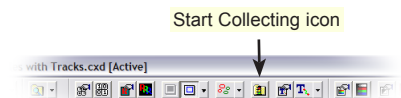

fig.7
3. Click the **Start Collecting** icon (fig.7) in the **Data Document** toolbar > assign a file name > **Save** > Check all the data components (fig.8) to be included in the measurements > **OK** > Click **Start** in the **Task** toolbar.